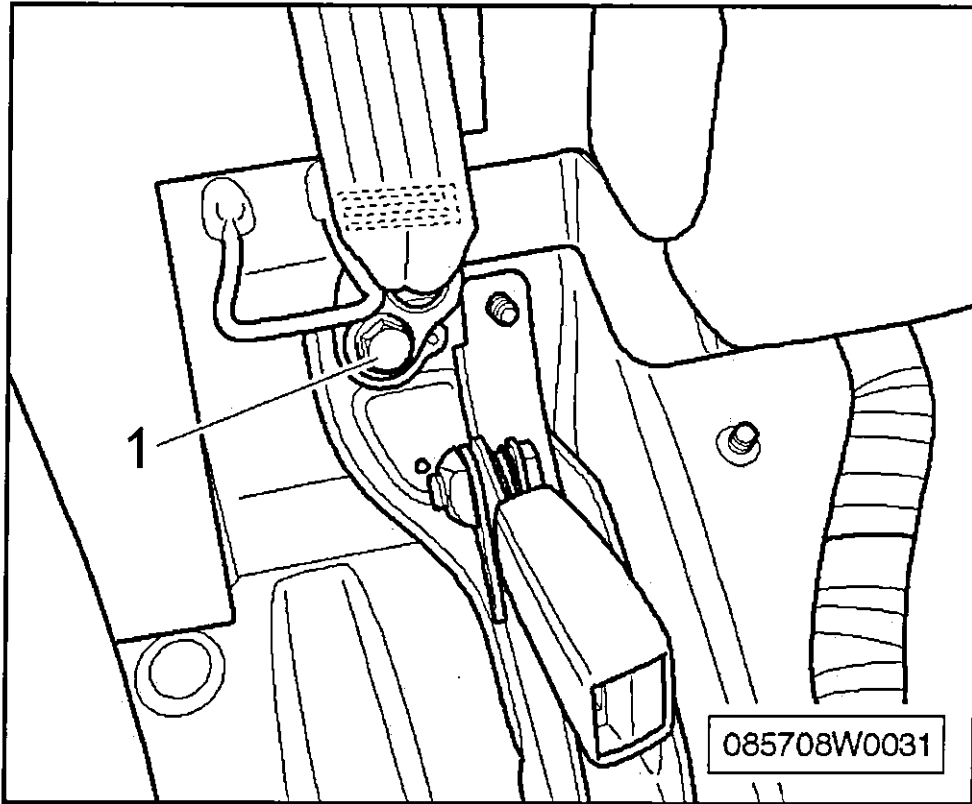
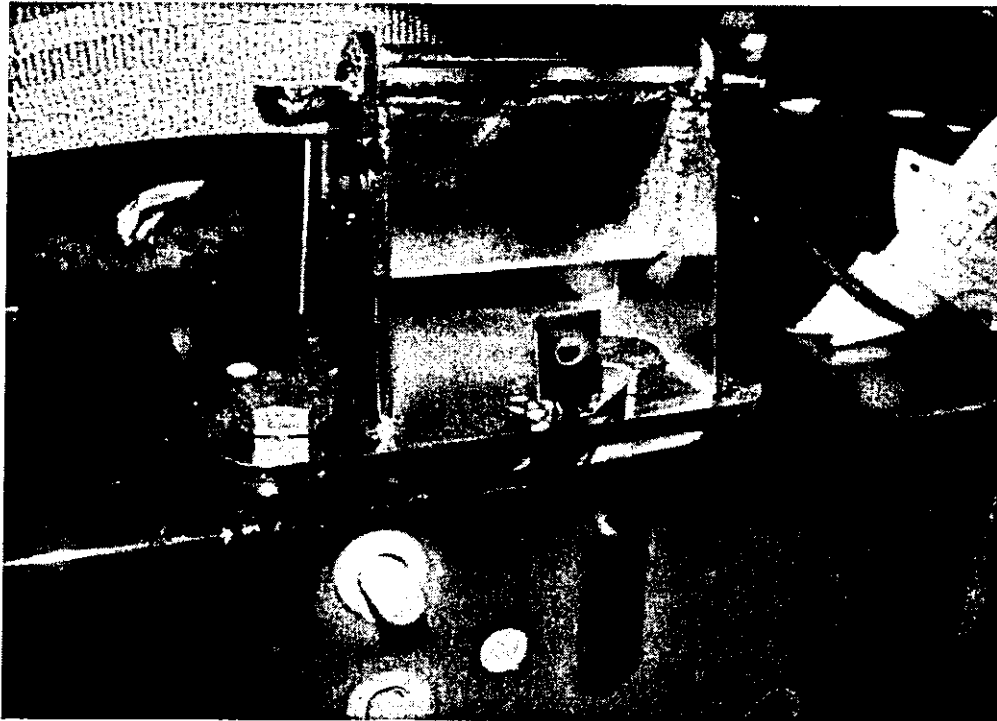

Figure 1
Figure 3
2. Referencing Figure 1, remove the lower seat belt anchor fixing (1)
4. On the leather trimmed seat belt tower adjacent to the parcel shelf, pull forward and disengage the escutcheon finisher that the seat belt slides through, pull the belt aside (2) to expose the single plastic fir tree fastener (3) remove the fastener using a suitable tool. Then firmly pull up in the trimmed seat belt tower in the direction of the arrows (1) (there are two downward facing metal clips that retain the trimmed seat belt tower to the seat belt bracket)
5. Remove the two bolts (4) securing the seat belt upper guide bracket to the body (see Figure 3)
12. Referencing Figure 1, refit the lower seat belt anchor fixing. Torque 7/16 UNF bolt to 40Nm